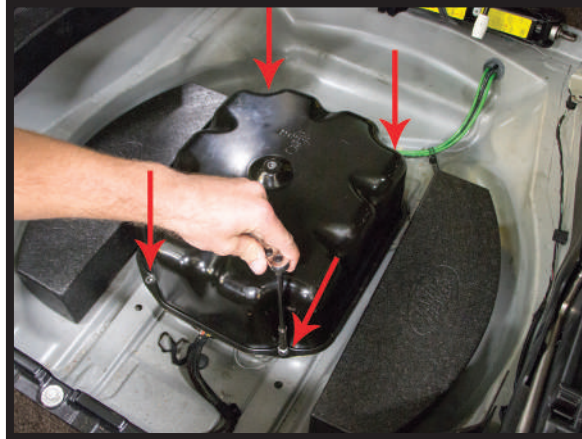

FIGURE 3
2. REMOVE THE FOUR (4) BOLTS HOLDING THE COMPRESSOR COVER TO THE VEHICLE. (FIGURE 3)